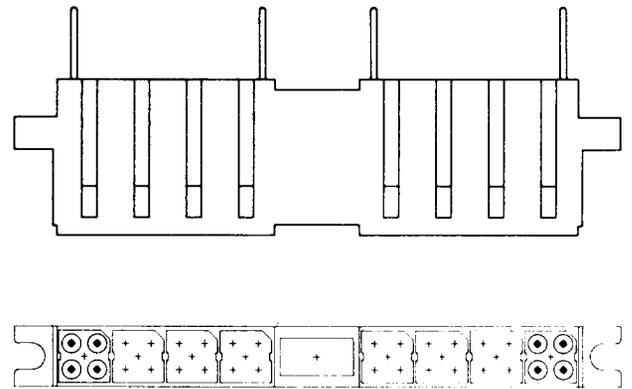
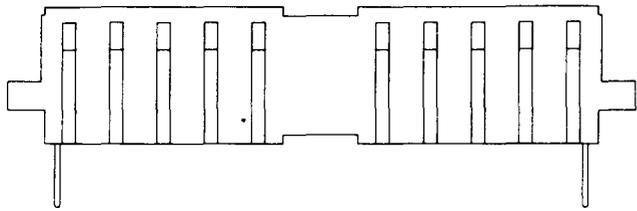

Fig. 4—KS-21048, L2 or L3 Connector
Fig. 6—KS-21048, L6 Connector
**2.04 KS-21048-Type:** The KS-21048, L2 and L3 (Fig. 4), L4 and L5 (Fig. 5), and L6 (Fig. 6) multicontact, panel mounted connectors are molded, plastic insulators containing replaceable, gold-plated, pin contacts (designated L1). They mate with the KS-21049 plugs. The KS-21048, L2 through L5 have 32 contacts. The KS-21048, L2 and L4 are white in color, and the KS-21048, L3 and L5 are blue in color. The KS-21048, L6 has 40 contacts and is white in color.